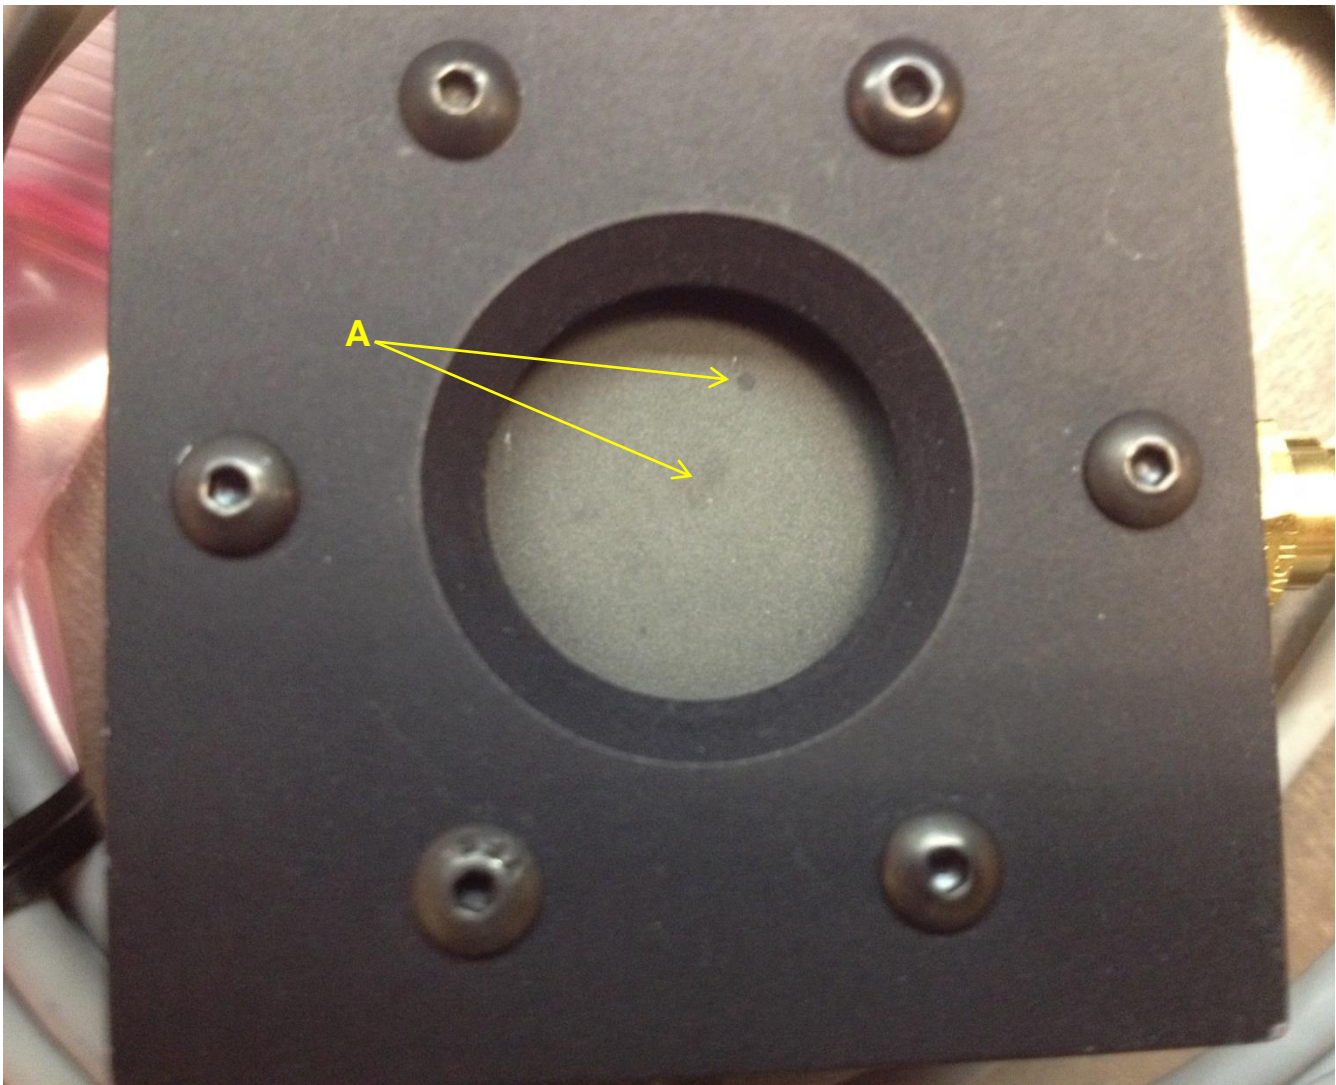

Figure 8: Discoloration Due to Contamination
- h. Figure 8: Discoloration Due to Contamination